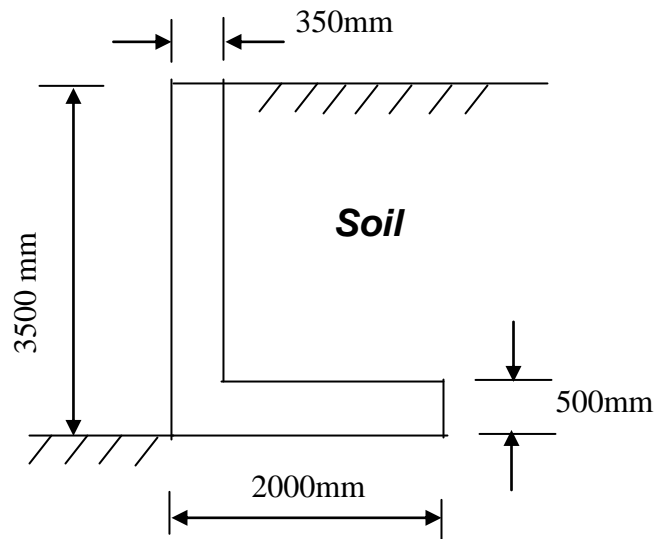

Figure 2.0
- (c) A retaining wall as shown in Figure 2.0 supports soil material of saturated density  $2000 \text{ kg/m}^3$ . The coefficient of active pressure,  $K_a$  is 0.33 and the coefficient of friction,  $\mu$  is 0.45. Assume the density of concrete is  $24 \text{ kN/m}^3$ . Based on the given information and Figure 2.0, check the stability of wall against sliding.